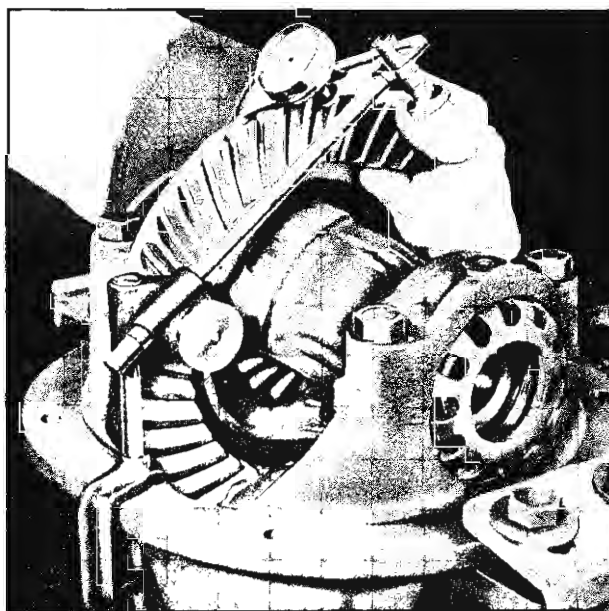

Fig. 32—Checking Back Lash
4. Mount a dial indicator on the carrier and check the back lash, (fig. 32) between the ring gear and pinion. The back lash should be from .003"-.010" (.005-.008 preferred).